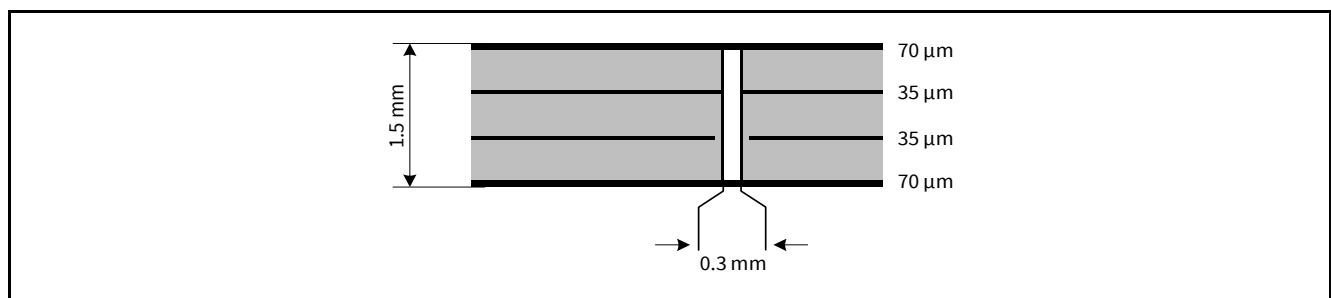

Figure 4 2s2p PCB Cross Section
2) Specified R_{thJA} value is according to JEDEC JESD51-2,-5,-7 at natural convection on FR4 2s2p board with 1 W power dissipation at $T_A=105^{\circ}\text{C}$; The product (chip + package) was simulated on a 76.4 x 114.3 x 1.5 mm board with 2 inner copper layers (2 x 7 μm Cu, 2 x 35 μm Cu). Where applicable, a thermal via array under the exposed pad contacts the first inner copper layer. Please refer to Figure 4